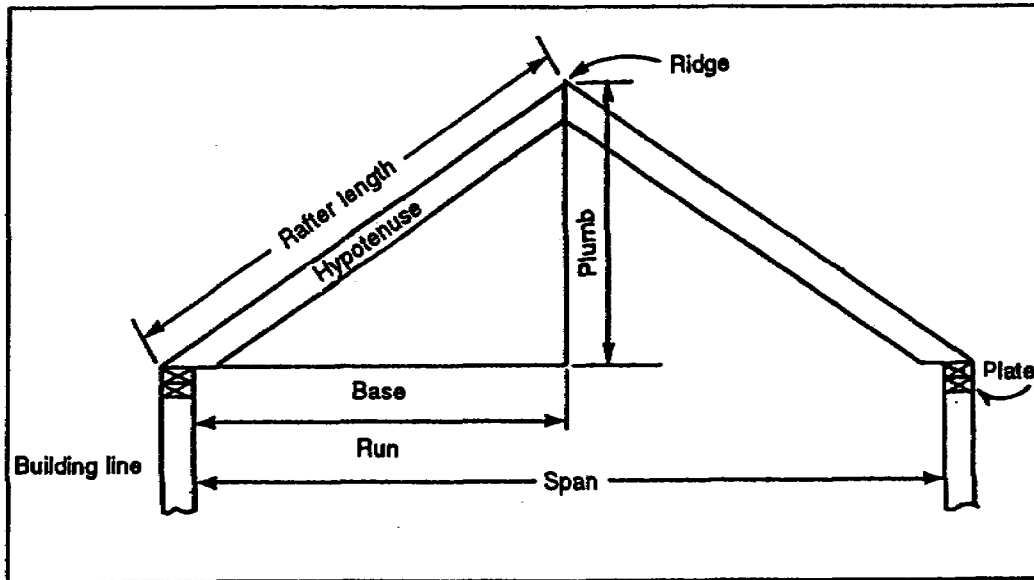

Figure 3-25. Basic triangle
a. **Basic Triangle.** The basic triangle is the most elementary tool used in roof framing (see Figure 3-25). When framing a roof, the basic right triangle is formed by the horizontal lines (or run), the rise (or altitude), and the length of the